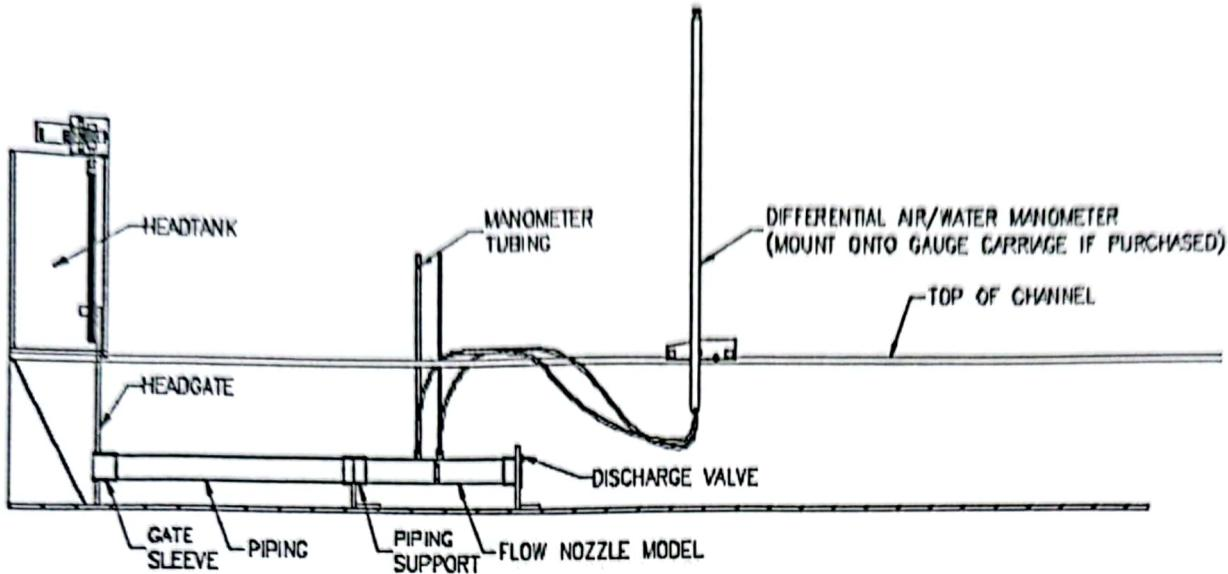

Figure 2: Flow Nozzle Meter Model Installation Diagram
1. Initial settings (Fig. 2):
2. Install pipe segment, pipe support, flow nozzle meter and discharge valve into headgate sleeve and onto channel floor. Secure discharge valve with two (2) #10-24UNC-2A x 0.625" long Round Head Machine Screws (RHMS) at the flange. Engage all o-rings at pipe connections. Open the discharge valve fully.